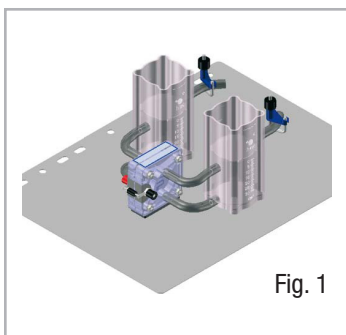
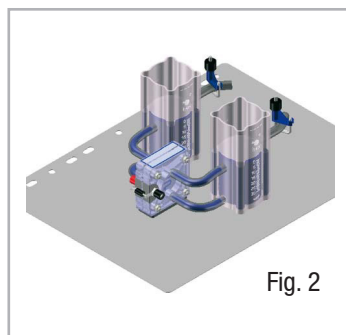

Fig. 1
Fig. 2
- 1 . Place the solar module and the fan on the experimentation plate (Fig. 1) or place the solar module on the vehicle plate (Fig. 2) as marked.
2 . Place one long tube on the connection of the “Fuel Cell” side of each of the gas storage tanks and close each tube off with a tube clamp (Fig. 1).
4 . Open the tube clamps. This will allow the air to escape from the gas storage tanks and the electrolyzer. The water will move to the bottom of the tank and into the electrolyzer. The process is completed when the water level in the gas storage tanks no longer decreases (Fig. 2). Then close off both tube clamps again.
- 3 . Close each of the two lower connections of the fuel cell with a cap (Fig. 1).
- 5 . Open the caps on both sides of the fuel cell so that the air escapes from gas storage tanks, electrolyzer and fuel cell. The process is completed when the water level in the gas storage tanks no longer decreases (Fig. 2). Then close the lower connections of the fuel cell with the caps again.